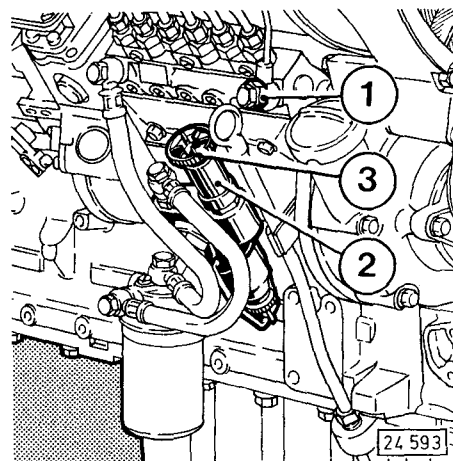

Fig. 13
- undoing the overflow valve 1 (Fig. 13) at the lower (larger) hexagon by 2–3 turns,